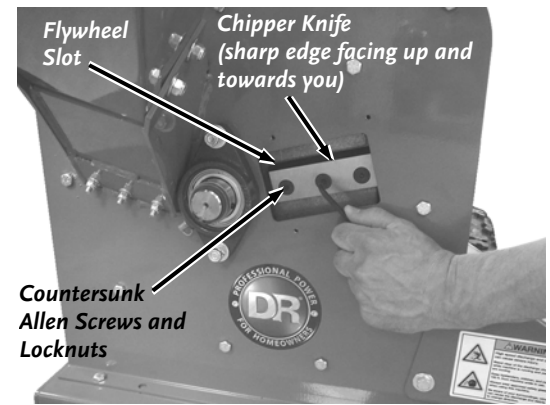

Figure 37
3. Rotate the Flywheel using a long stick until the three countersunk Allen Screws and Locknuts attaching the Knife to the Flywheel are visible through the Access Openings (**Figure 37**).
9. Install a new or sharpened Knife as shown (**Figure 37**) with the Knife edge facing up and towards you and finger tighten the Allen screws and Locknuts (use the new hardware supplied with a new Knife kit) to hold the Knife to the Flywheel.